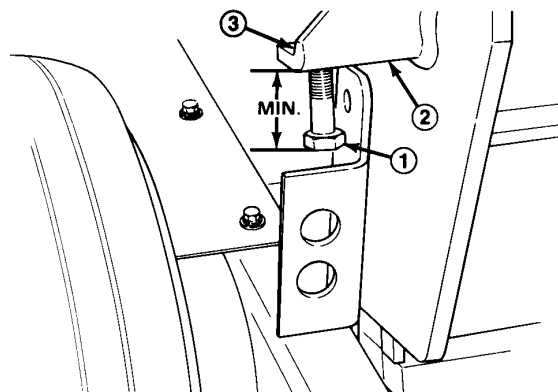

Figure 11
2. Loosen the jam nut on top of the adjusting bracket (Fig. 11).
3. Thread the adjusting screw into the bracket to increase coring depth. Thread it out to decrease depth (Fig. 11).
5. Best recommended coring depth is achieved when the distance from the end of the screw head to the bracket is $1\frac{1}{16}$ " (Fig. 11).